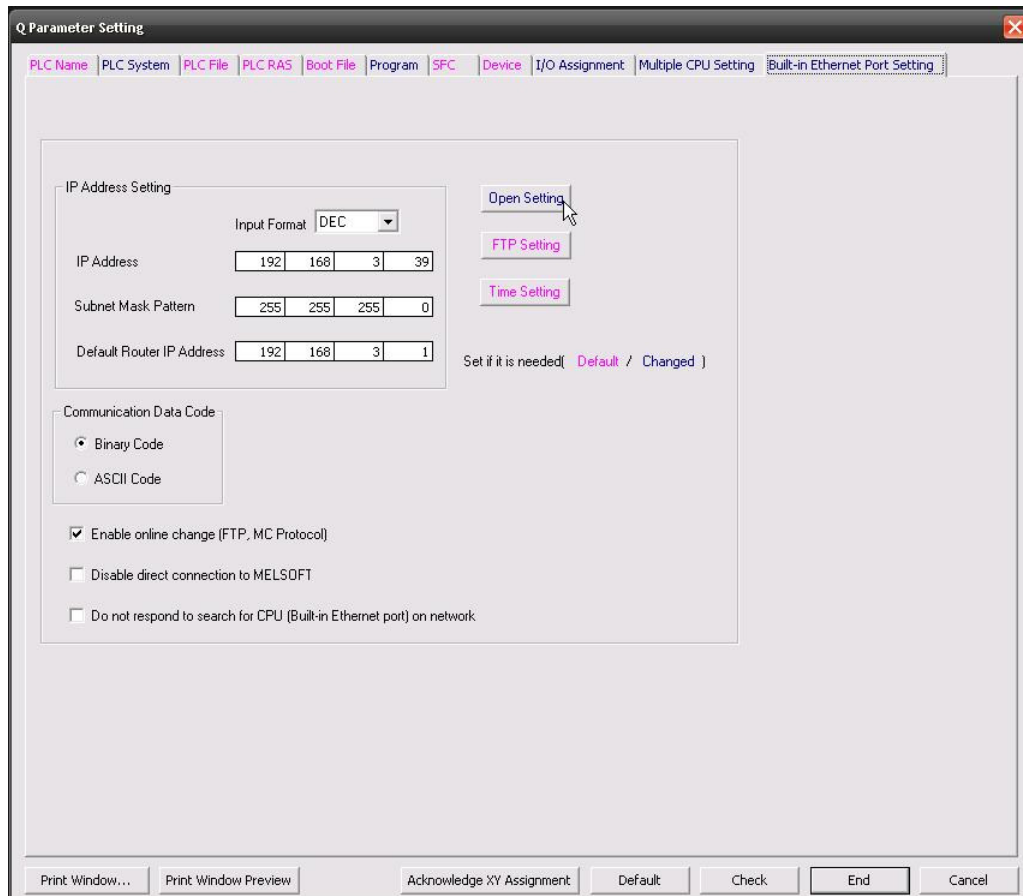

Figure 5.
1. Open the PLC's Ethernet configuration window, as shown in Figure 5.